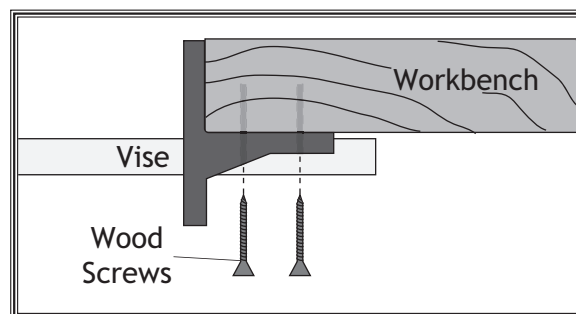

Figure 4. Attaching vise to workbench.
4. Attach the vise to the workbench with four #10 x 2" wood screws through the underside of the workbench, as shown in **Figure 4**.